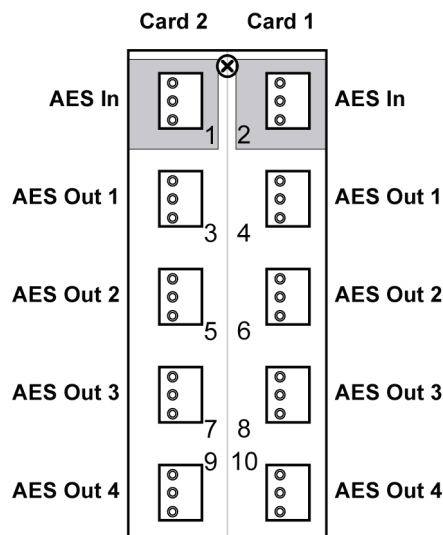

Figure 5. Cable Connections for the DFR-8320 frames with the R2BS-8401 Rear Module
- **R2BS-8401 Split Rear Module** — Each card occupies one slot and provides four outputs. Note that each Split Rear Module provides connections for two cards. Refer to **Figure 5** for cable connections.